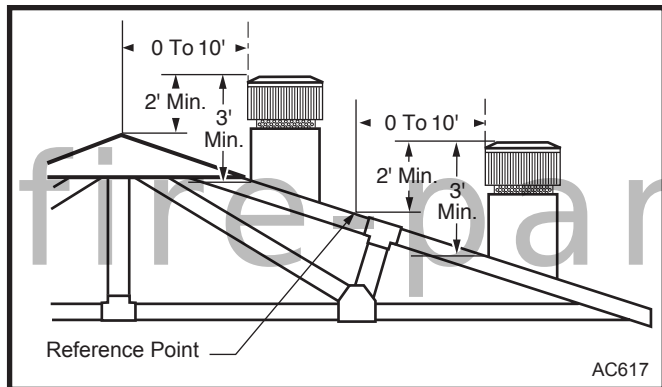

Fig. 11 10' rule.
1. If your chimney penetrates the roof within 10' (3 m) of its peak, it must extend at least 24" (610 mm) above your roof's peak and be at least 36" (914 mm) above the highest point of the roof opening. (Fig. 11)
2. If the chimney penetrates the roof farther than 10' (3 m) from its peak, measure from the center line of the chimney to a point 10' (3 m) away, between the chimney and the peak of the roof. The top of the chimney must be at least 24" (610 mm) above this point and at least 36" (914 mm) above the highest point of the roof opening. (Fig. 11)